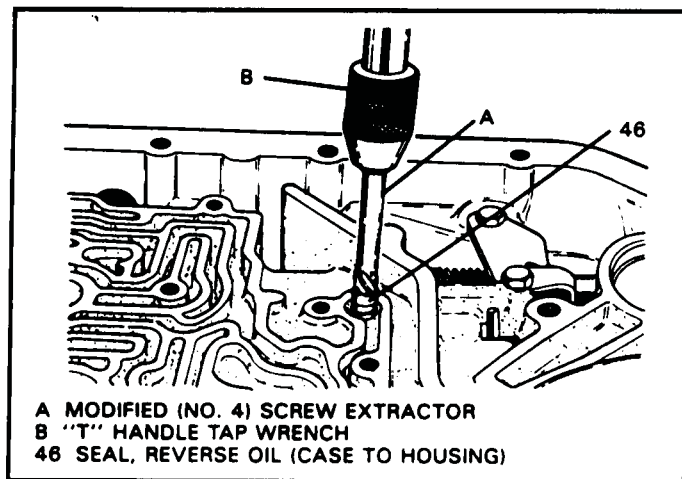

Figure 59
8. Remove and discard the case cup plug with a modified #4 easy-out as shown in Figure 59.